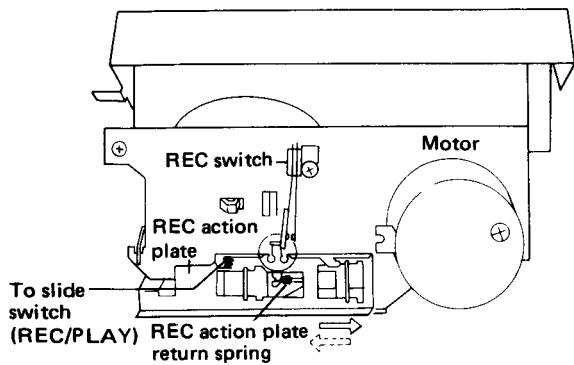

Fig. 13-7 STOP → REC operation (REC switch ON)
1. When the REC button is pressed, the cam on the REC button moves the REC connection arm in the ① direction, gear lever R in the ② direction, and gear lever A in the ③ direction.
2. With the movement of gear lever R, stopper A on cam gear R is released from gear lever R, cam gear forced down by the pressure exerted by trigger spring R, and starts rotating in the ④ direction. It then commences to mesh with the capstan gear.
4. At this time, the shape of the cam on cam gear R causes the REC action lever to move in the ⑤ direction, pressing on the REC action plate. (Fig. 13-7).